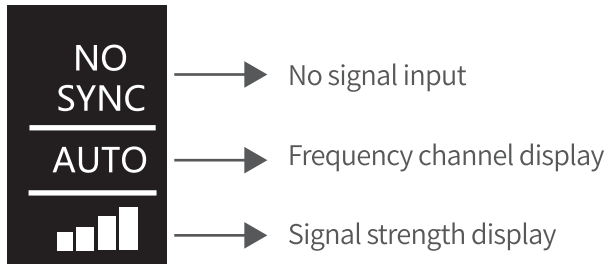
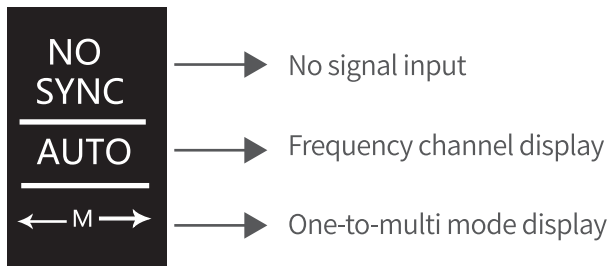

Fig. 1
Fig. 3
When no signal input, the transmitter is consistent with the receiver display content. See Fig. 1
When the transmitter has no signal input, see Fig. 3
- (1) Connecting SDI IN/HDMI IN interface of FLOW500 transmitter with SDI OUT/HDMI OUT interface of camera or video output device. Connecting SDI loop out interface of FLOW500 transmitter with SDI IN interface of monitor or switcher.
- (2) Connecting SDI OUT interface of FLOW500 receiver with SDI IN interface of monitor or switcher. When using one-to-multi mode, every SDI OUT interface of receiver should be connected with SDI IN interface of monitor or switcher.
- (3) Switch on both FLOW500 transmitter and receiver, “Power” indicator light up, OLED screen show “WAIT...” then jump to initial interface, see fig.1 or fig.3; Wait until “Link” and “Video” indicator light up, the transmitter and receiver have identifiable signal inputs and connected successfully. If the transmitter and receiver have identifiable signal inputs but fail to establish a connection, the "link" indicator will flash.
- (1) Connecting SDI IN/HDMI IN interface of FLOW500 with SDI OUT/HDMI OUT interface of camera or video output device. Connecting SDI loop out interface of FLOW500 transmitter with SDI IN interface of monitor or switcher.
- (2) When using one-to-multi mode, every SDI OUT interface of receiver should be connected with SDI IN interface of monitor or switcher.
- (3) Switch on both FLOW500 transmitter and receiver, every receiver should be switch on when using one-to-multi mode. “Power” indicator light up, OLED screen show “WAIT...” then jump to initial interface, see fig.1 or fig.3; Wait until “Link” and “Video” indicator light up, the transmitter and receiver have identifiable signal inputs and connected successfully, right push the joystick to “PREF” interface, see fig.11.
- (4) It is recommended to choose high quality mode for wireless devices under normal operating conditions, such as better environment, stronger signal, or more than one set of wireless devices under the same scene.
- (5) Wall through mode is recommended for wireless devices under complex operating conditions, such as poor on-site environments, high distance barriers and only 1-2 sets of wireless devices in the same scene. (If more than one set is used in the same scene, it is recommended to use a high quality mode to reduce interaction)